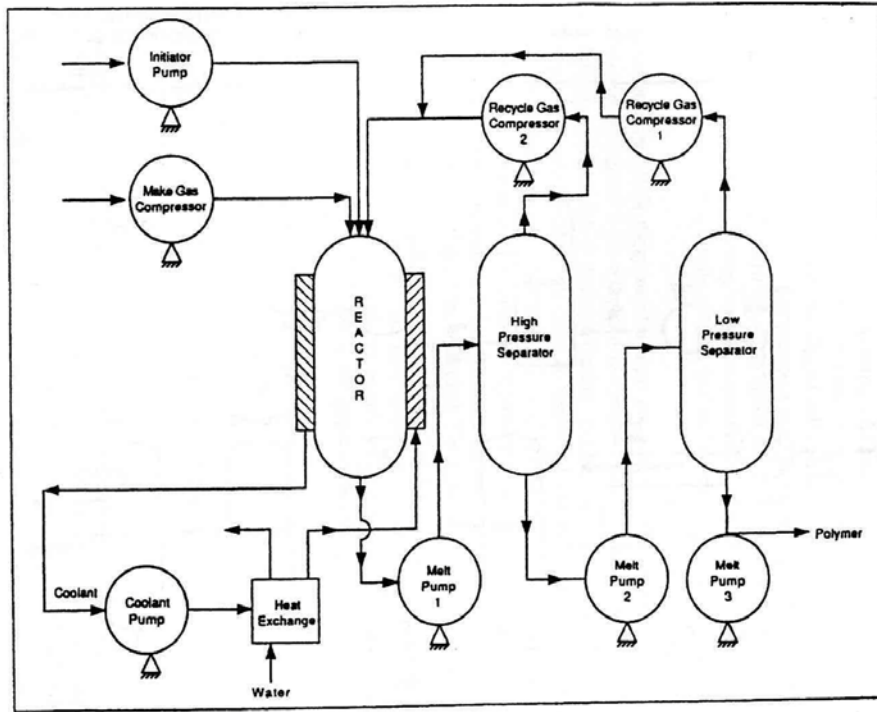

Figure Q.6.[a].
6. A simplified flow diagram of a high pressure/low density polyethylene plant is shown in Figure Q.6.[a]. Ethylene is compressed to about 1500 atmospheres and 195°C, mixed with a polymerization initiator and fed to a jacketed tubular reactor where 15-25% ethylene is converted per pass in order to reduce the dangers associated with the highly exothermic polymerization reaction. The product is sent to a high pressure separator to recover the ethylene and recycle it. The polymer is sent to a low pressure separator to remove residual ethylene which then compressed and recycled. The main hazards are due to runaway reactions which may arise due to the very exothermic nature of the polymerization reaction, and the inflammability/explosivity of ethylene. Cooling of the tubular reactor is therefore critical, as is the prevention of a large or prolonged ethylene leaks.